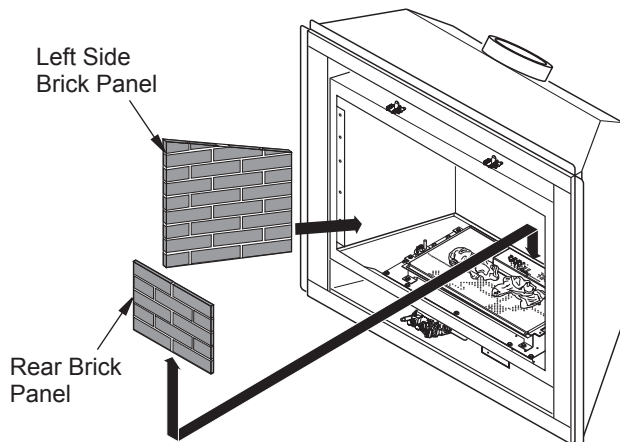

Figure 44 - Installing Rear Brick Panel
6. Install rear brick panel first. Rest bottom edge of panel on back edge of burner assembly (see Figure 44).
7. Install left side brick panel by sliding it between the burner assembly and the side of the firebox (see Figure 44).